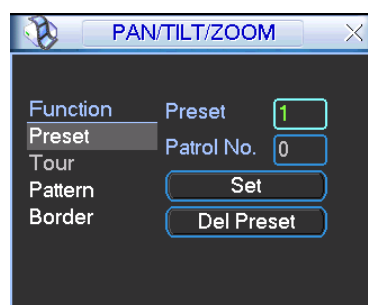
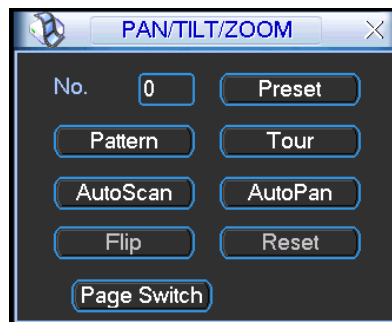
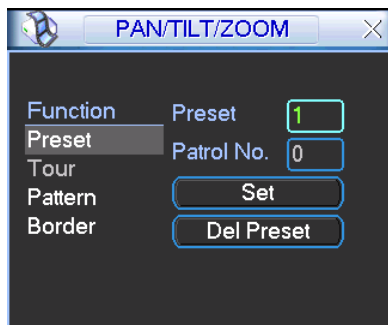

Figure 4-45
Figure 4-46
Figure 4-47
In Figure 4-42, please click the “set” button. The interface is shown as below. See Figure 4-45.
In Figure 4-42, click page switch button, the interface is shown as in Figure 4-46.
- The following setups are usually operated in the ...Figure 4-42, Figure 4-45 and Figure 4-46.
In Figure 4-45, click preset button and input preset number. The interface is shown as in Figure 4-47.
In Figure 4-46, please input preset number in the No. blank, and click preset button.
In Figure 4-45, input patrol (tour) number in the No. blank and click patrol button
In Figure 4-45, click pattern button and then click “begin” button. The interface is shown as in Figure 4-49. Then you can go to Figure 4-42 X to modify zoom, focus, and iris.
In Figure 4-46, click “Auto Scan” button, the system begins auto scan. Correspondingly, the auto scan button becomes Stop button. Click stop button to terminate scan operation.
In Figure 4-46, click page switch button, you can see an interface is shown as below. See Figure 4-51. Here you can set auxiliary function. The aux value has relationship with the Aux button of the decoder.